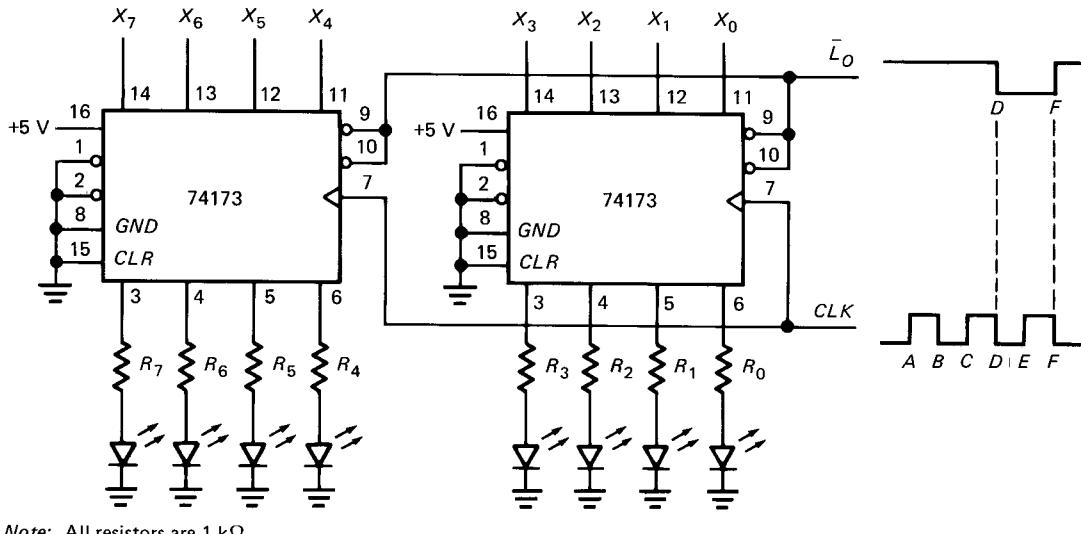

Fig. 8-29
- 8-1. Figure 8-29 shows an output register. Before time A the data word to be loaded is
- a. In Fig. 8-29, how far ahead of point E must the X bits be applied to ensure accurate loading?
- 8-3. Each output pin of a 74173 can source up to 5.2 mA. In Fig. 8-29 suppose the high output voltage is 3.5 V and the LED drop is 1.5 V. To get more light out of the LEDs, we want to reduce the current-limiting resistors. What is the minimum allowable resistance?